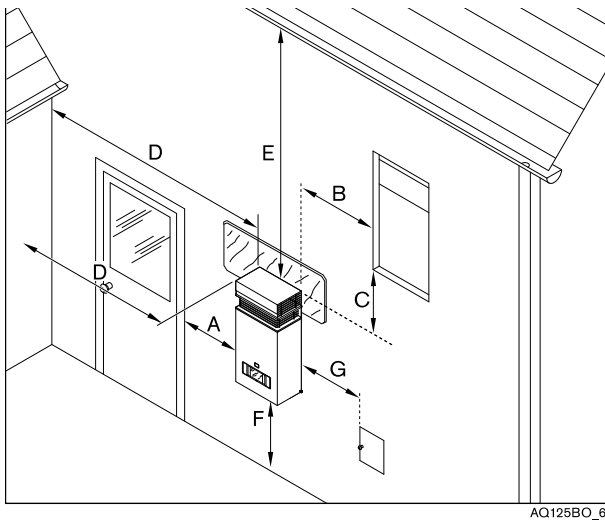

Fig. 5
- ▶ If the unit is to be installed on a combustible surface use the enclosed heat shield (see Fig. 5).